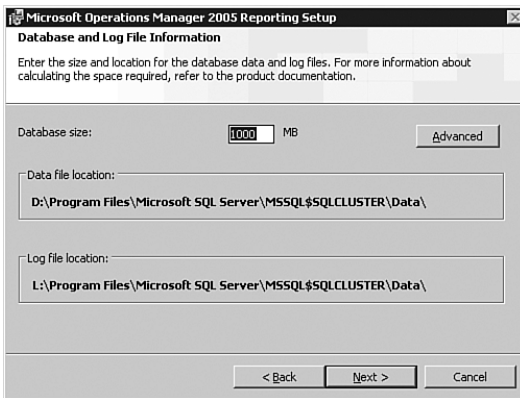

FIGURE 10.12 The Database and Log File Options screen.
3. Specify the size of the reporting database and the location of the data file and log file. Be sure to use a physical drive resource from the Cluster Group to which the SQL Server Cluster belongs. Figure 10.12 shows this screen configured to create the data files on the D: drive and logs files on the L: drive, which are Cluster resources.